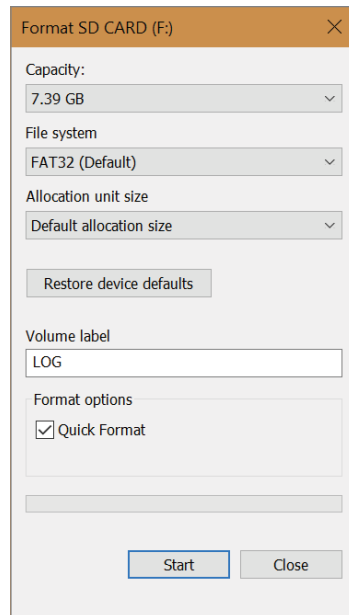

Figure 14-3: Format option window
3. Choose the file system type (FAT for cards 2 GB and under, and FAT32 for larger cards), use the default allocation size, and choose a volume label. (I chose LOG, but you can choose whatever you want.) Figure 14-3 shows the configuration for an 8 GB card.